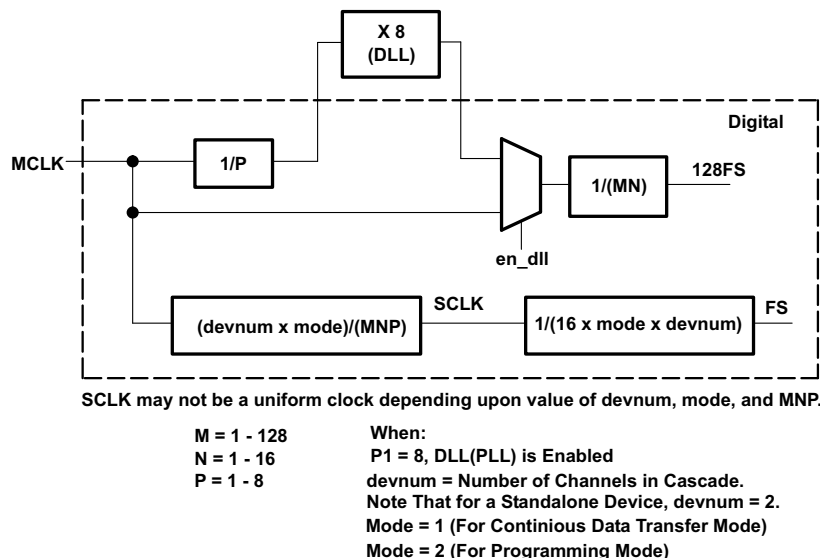

Figure 18. Clock Timing
- The fine sampling rate needs an on-chip phase lock loop (frequency multiplier) to generate internal clocks. The output of the PLL is only used to generate internal clocks that are needed by the data converters. Other clocks such as the serial interface clocks in master mode are not generated from the PLL output. The clock generation scheme is as shown in Figure 18. The PLL requires the relationship between MCLK and P to meet the following condition: $10 \text{ MHz} \leq (MCLK/P) \leq 25 \text{ MHz}$.